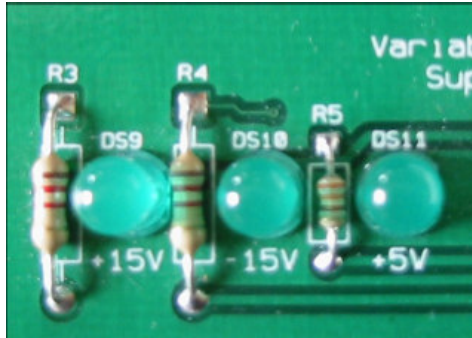

Fig. 5. Elvis Protoboard supply LEDs.
4. Apply power to the proto board by switching the Prototype Board Power switch to the up position. The three indicator LEDs +15V, -15V and +5V should now be lit as show in the figure 5.